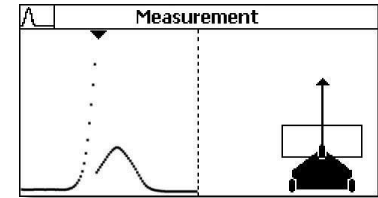

Fig. 27 Measurement
Starting a measurement, a graphic of the path is shown on the right hand side of the screen (s. Fig. 27). It is necessary to pass roughly over the reflector center, always starting along the short side in case of rectangular formats. All three wheels of device have to be in contact with the surface.
- Jumps in measurement curve (s. Fig. 27) representing the signal amplifications of the device. The amplification is thereby adjusted to the measurement signal.